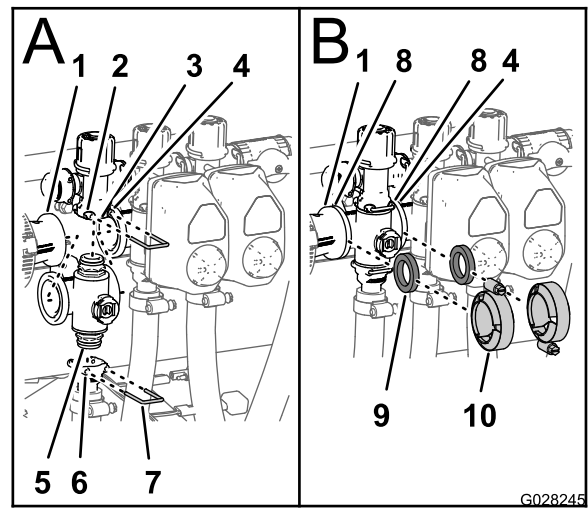

Figure 99
1. Insert the upper endcap fitting of the manifold valve into the bypass fitting (A of Figure 99).
2. Secure the endcap fitting to the bypass fitting by inserting a retainer into the socket of the bypass fitting (A of Figure 99).
3. Assemble the outlet fitting onto the lower endcap fitting of the manifold valve (A of Figure 99).
4. Secure the endcap fitting to the outlet fitting by inserting a retainer into the socket of the outlet fitting (A of Figure 99).
5. Align a 1 gasket between the flanges of the reducer coupling and the section valve manifold (B of Figure 99).
6. Assemble the reducer coupling, gasket, and section valve manifold with a clamp tightened hand tight (B of Figure 99).
7. If installing the 2 left most section valves, align a 1 gasket between the flanges of the 2 adjacent section valve manifolds (B of Figure 99).
8. Assemble the and 2 adjacent section valve manifolds and gasket with a clamp tightened hand tight (B of Figure 99).